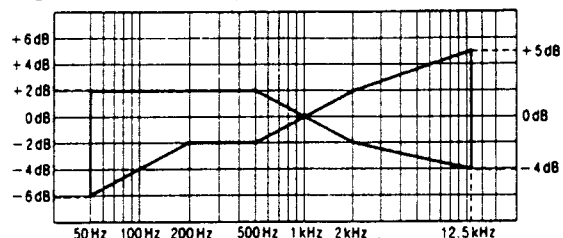

Fig. 16
8. Assure that the level is within the range shown in Fig. 16.